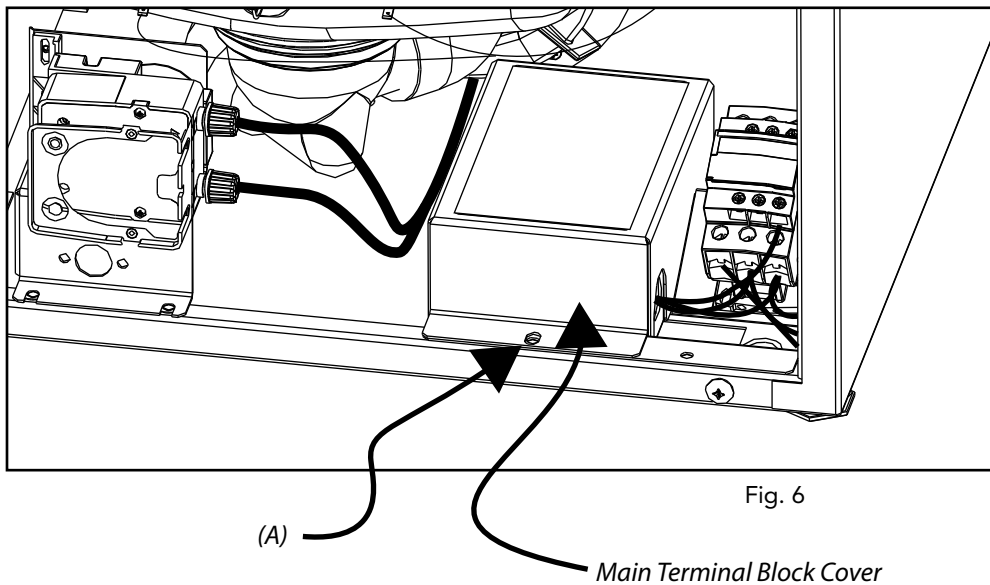

Fig. 6
2. Remove the retaining fastener (A) from the main terminal block (Fig. 6)